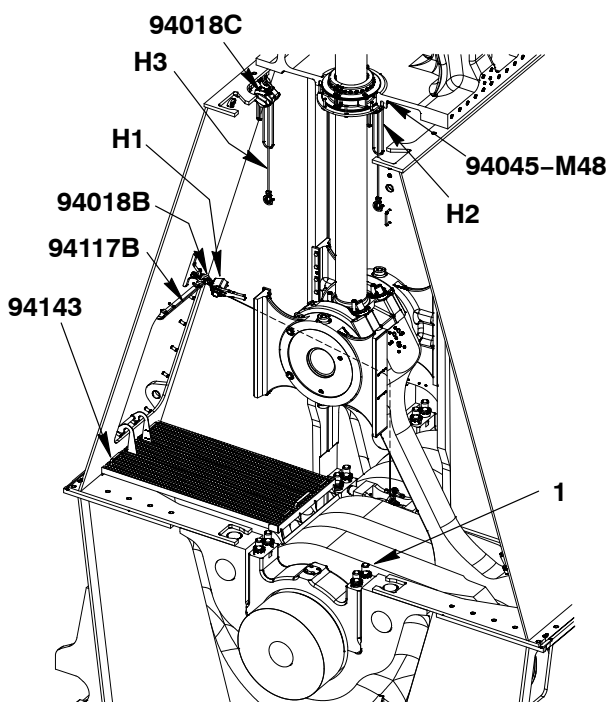
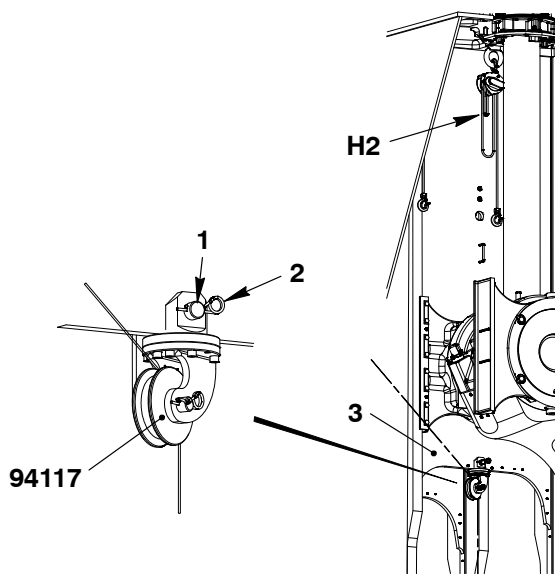

Fig. 2
Fig. 3
- 2) Attach the work platform (94143, Fig. 2).
- 4) Apply tension to the elastic studs (1) and remove their nuts, refer to 1132 1.
- 5) Install the chain block (H2, Fig. 3) and the eye bolt (94045 M48) near the gland box.
- 6) Attach the manual ratchet (H1, Fig. 2) and the shackle (94018B) to the column above the door.
- 8) Attach the roller support (94117, Fig. 3) to the column (3) with the pin (1).
- 9) Lock the pin (1) with the double spring clip (2).
- 10) Attach the deviation pipe (94117B, Fig. 2) to the column.